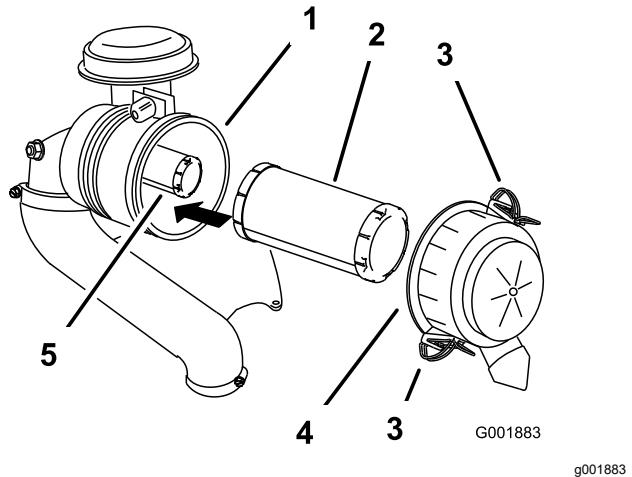

Figure 29
- Release the latches on the air cleaner and pull the air-cleaner cover off the air-cleaner body (Figure 29).
- Gently slide the primary filter out of the air-cleaner body (Figure 29).
- If you are replacing the inner filter, carefully slide it into the filter body (Figure 29).
- Carefully slide the primary filter over the safety filter (Figure 29).
- Install the air-cleaner cover and secure the latches (Figure 29).